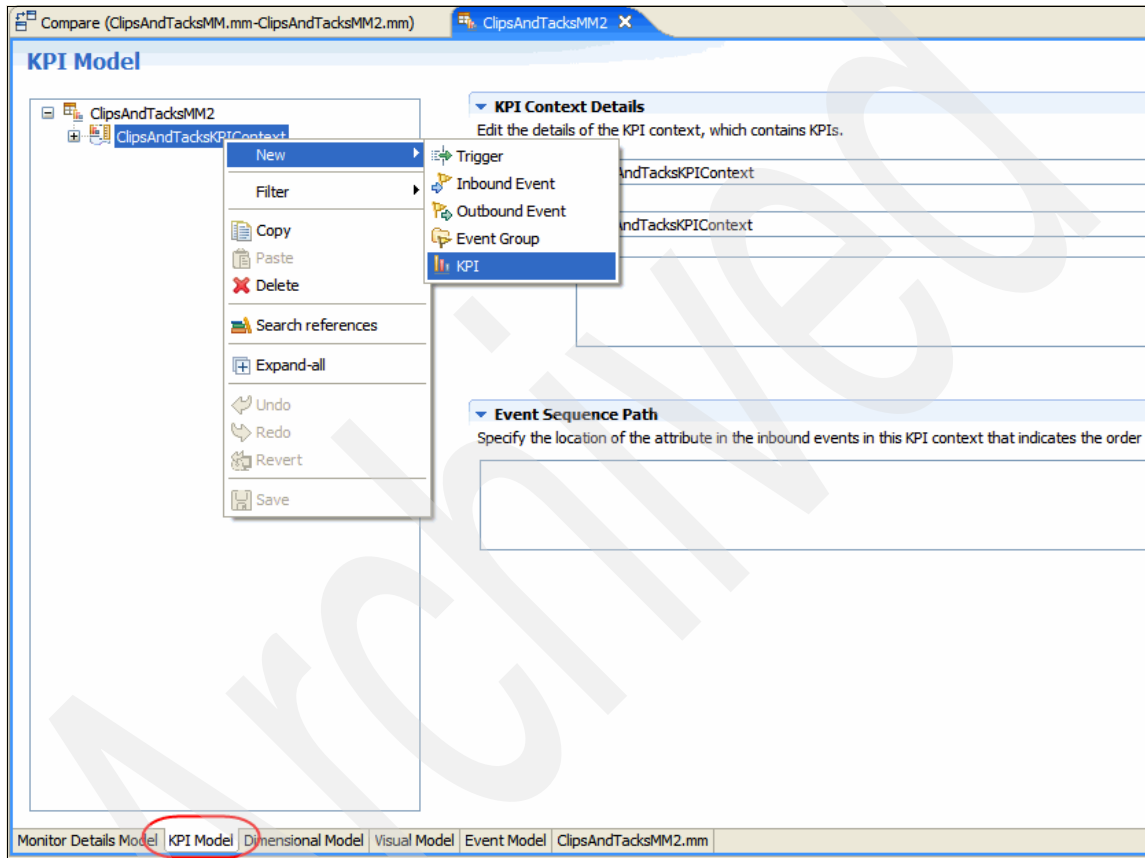

Figure 6-108 Creating a new KPI
1. In the monitor model editor (Figure 6-108), click the **KPI Model** tab.